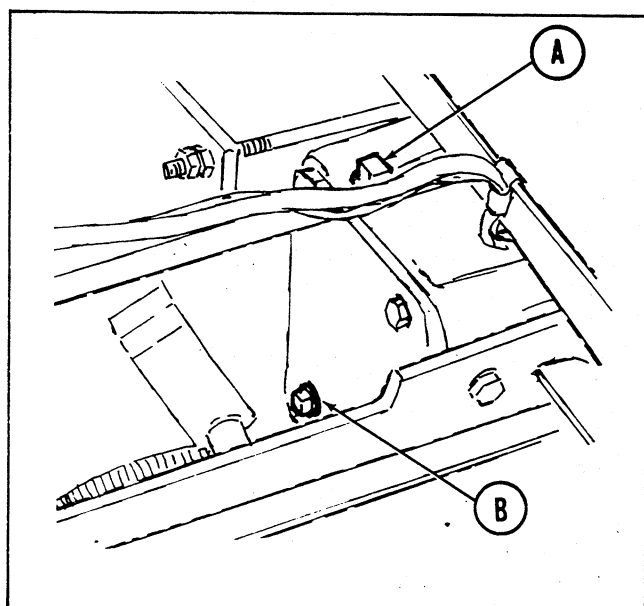

Figure 29. Bevel gear housing located under seat deck.
CHECK BEVEL GEAR BOX OIL LEVEL: See figure 29. The bevel gear box fill plug is located at (A). The gear box is properly filled when SAE 90 weight transmission oil is added until it touches the end of the fill plug dipstick assembly. Do not screw plug into housing when measuring for oil level. Drain bevel gear housing by removing drain plug (B). To prevent oil leakage, securely tighten both fill and drain plugs. The fill plug assembly is vented.